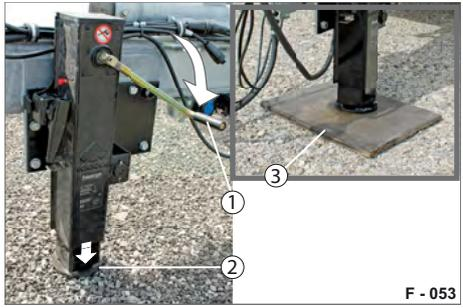

Fig. 52 Swivel support / support position
- ▶ Using the hand crank (Fig. 52/1), crank the support foot (Fig. 52/2) fully down to the ground.
- ▶ Compensate for uneven ground, if applicable, so that the trailer is in a horizontal position. If necessary, used a fixed base (Fig. 52/3).